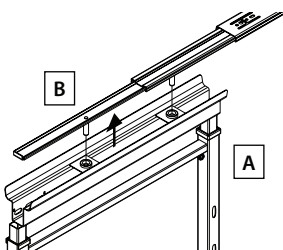

fig. 6
**7)** Two pins in top slide (B) insert into mating bushings in the top of the frame (A) as shown in figure 6.